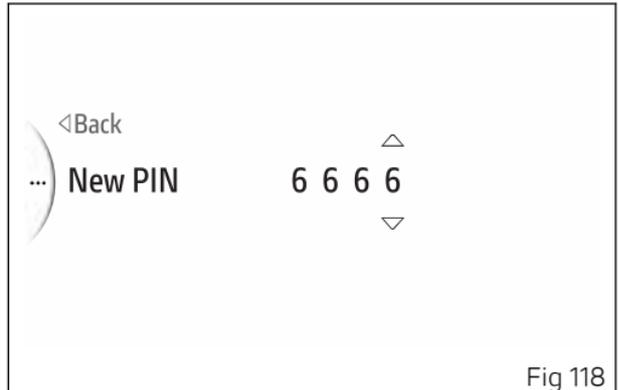

Fig 118
- The 2 arrows above and below the digit indicate that the number can be changed from 0 to 9 using buttons (1) and (2).
- Press ENTER (3) to confirm and move on to the following digit.
- Repeat the procedure until entering all 4 digits (Fig 118).
- Press ENTER (3) to confirm the digit and move on to the following one.